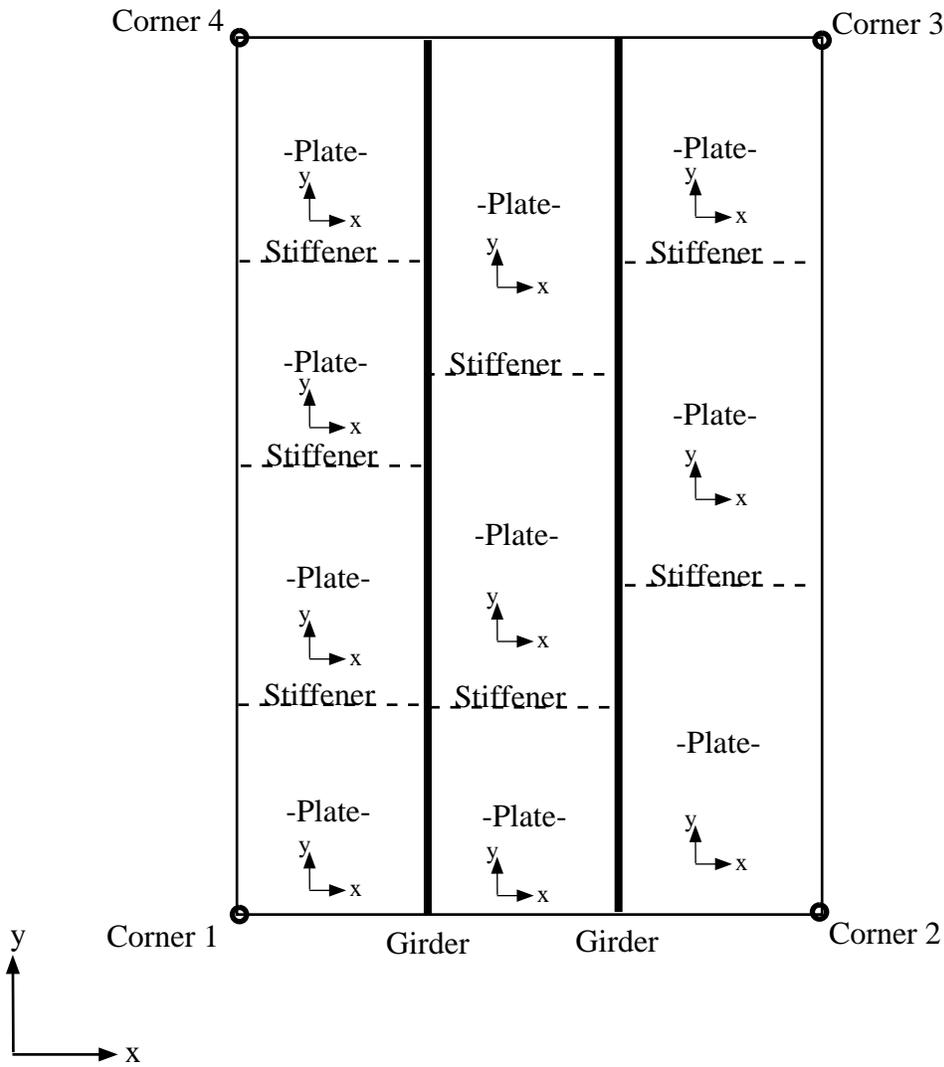

Figure 1-6 The Capacity Model Assembly
The stiffened panel defined through a Capacity Model Assembly is a flat, rectangular area with main girders running parallel to two of the sides in the rectangle. The stiffeners run in the direction defined by the two remaining sides in the rectangle (i.e. at right angles wrt. the girders). The plates occupy the areas between the stiffeners and girders. The API-specific Capacity Models (Uniaxially & Orthogonally Stiffened Panels) occupy the whole Capacity Model Assembly area, but their geometry descriptions are simpler than the general description of the Capacity Model Assembly. For an example of a Capacity Model Assembly, see figure 1-6, page 1-10..
- The Assembly area is defined by four corners, numbered as shown on figure 1-6..